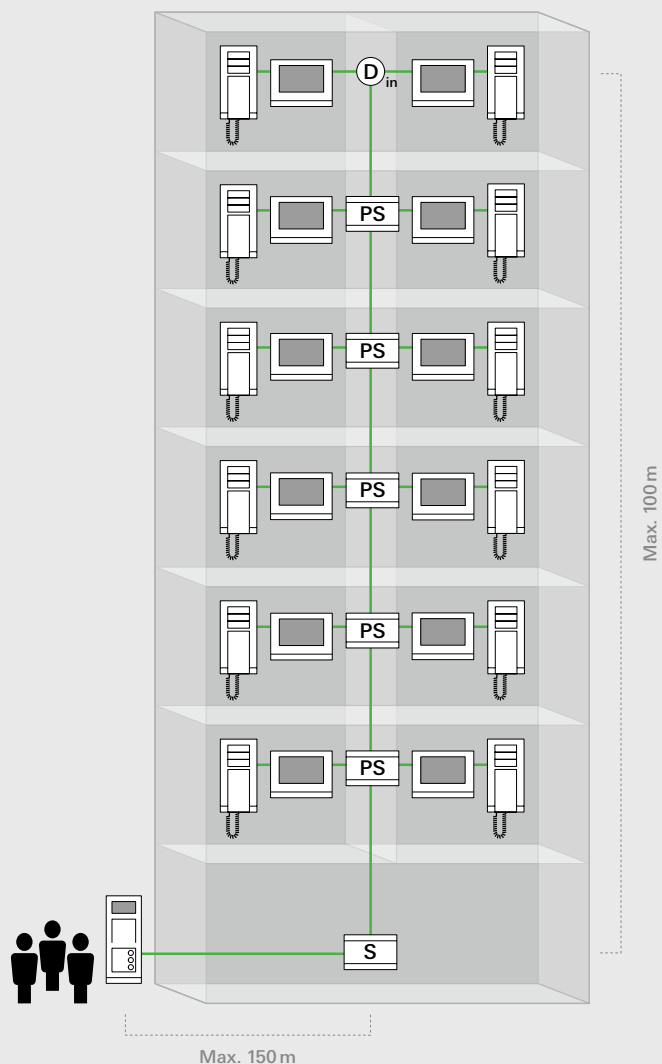

Fig. 21
**Multifamily houses with 12 private apartments, in each apartment: one ABB-WelcomeTouch and one ABB-Welcome audio indoor station with handset** Fig. 21